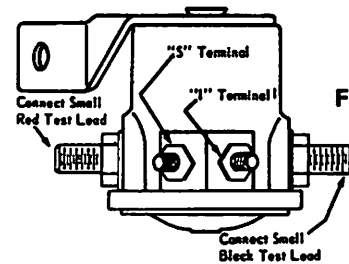

Figure 1. Terminals on Solenoid
4. Connect small red test lead to one large terminal of solenoid and connect small black test lead to other large terminal, as shown in Figure 1.